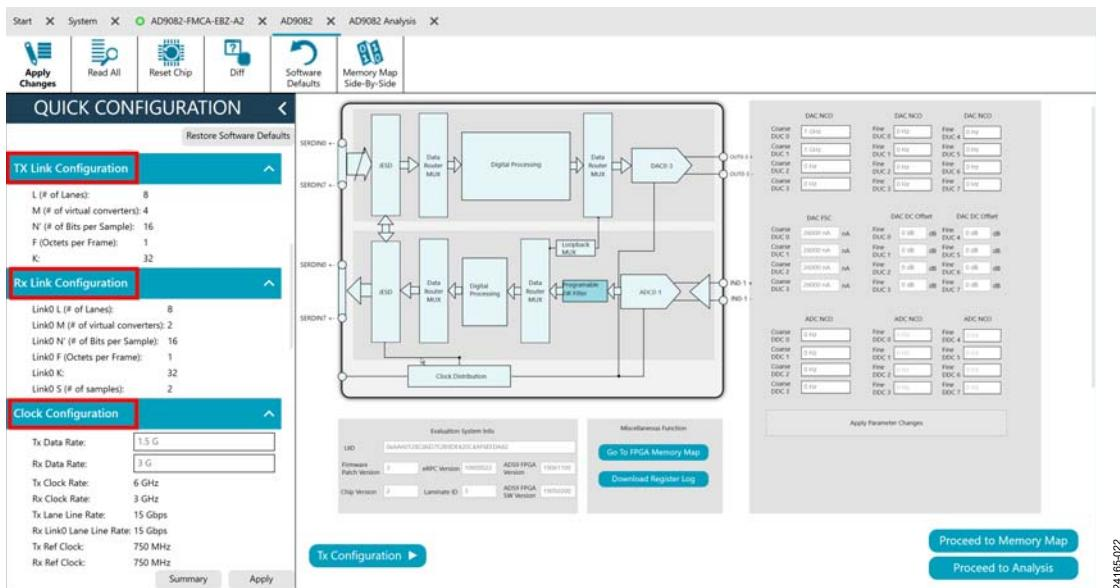

Figure 25. Configuring the AD9081 or AD9082 for Full Bandwidth Mode Using Chip View and Direct External Clock
6. Select the options for the other sections (**TX Link Configuration**, **Rx Link Configuration**, and **Clock Configuration**) in the **QUICK CONFIGURATION** pane as shown in Figure 25.